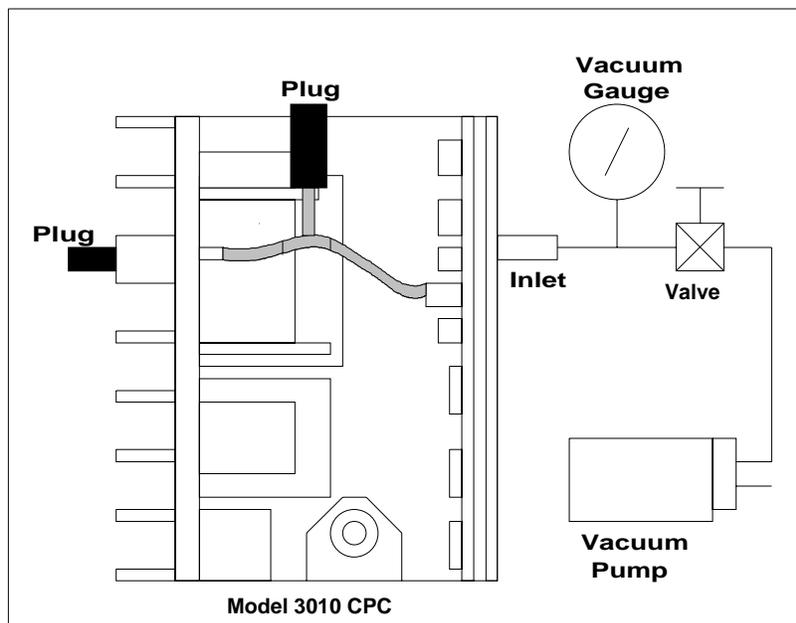

Figure 7-3
- Using Figure 7-3 as a reference, connect a vacuum gauge, valve, and vacuum pump to the inlet connector on the CPC. Use the inlet connector, rather than the outlet, to reduce the chance of contaminating the optics.